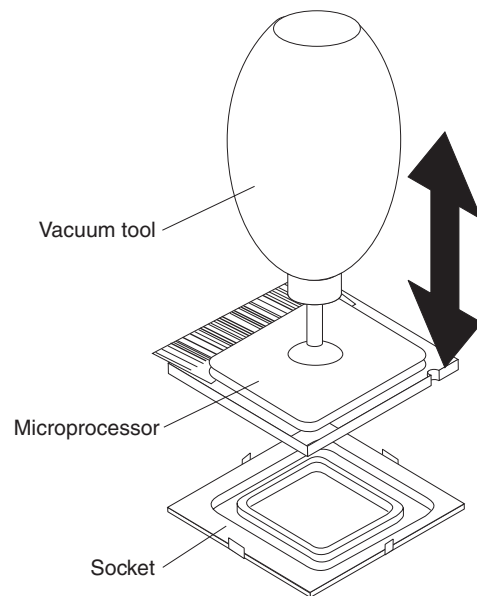

Figure 54. Removing the microprocessor
11. Remove the microprocessor by using the vacuum tool and completing the following steps (see Figure 54).